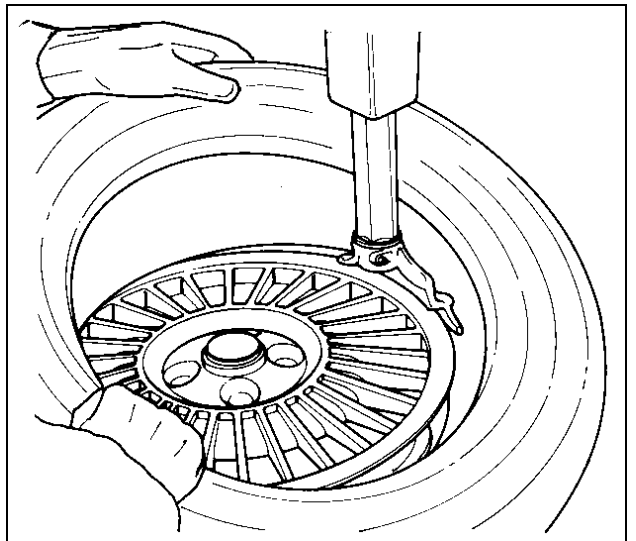

Fig.24
B. Lock the rim on the chuck and rotate it to have the valve at the 2 o'clock position. Place the tire to be mounted on the rim. Swing the mounting arm forward so that the mount/demount tool is in the working position. Engage the lower bead OVER the mounting wing and UNDER the mounting finger of the mounting tool (Fig.24). Turn the wheel clockwise and push the tire down into the drop center, opposite to the mount/demount head (Fig.24).